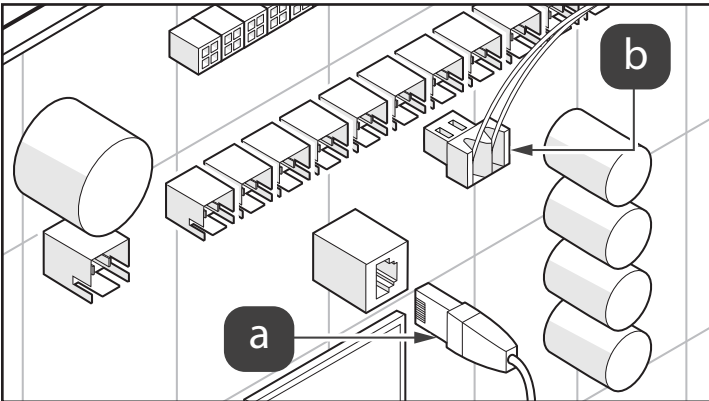

Figure 4. Unplug Auxiliary Relays
- Disconnect the Ethernet cable, see Figure 4(a).
- Unplug the auxiliary relays, see Figure 4(b).
1. If connecting a Low Voltage pool heater (for example, a Jandy® brand heater), connect two (2) 14 gauge wires, designed for use in hot environments, to the proper terminals on the 10 pin terminal bar (see Figure 4). If you are connecting a High Voltage pool heater, contact Zodiac for instructions.
2. Bring the two (2) heater wires from the PCB over to the heater and wire nut in series with heater circuitry as if you were wiring a fireman's switch or a heater delay.